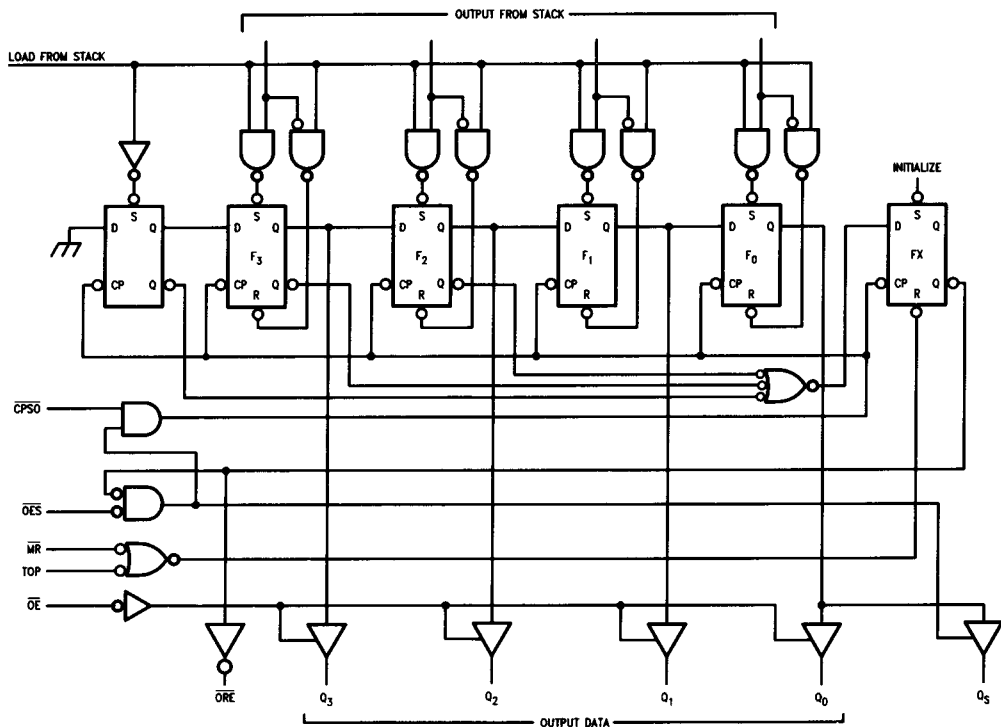

FIGURE 3. Conceptual Output Section
The Output Register receives 4-bit data words from the bottom stack location, stores it and outputs data on a TRI-STATE 4-bit parallel data bus or on a TRI-STATE serial data bus. The output section generates and receives the necessary status and control signals. Figure 3 is a conceptual logic diagram of the output section.
**Serial Data Extraction**—When the FIFO is empty after a LOW pulse is applied to  $\overline{MR}$ , the Output Register Empty ( $\overline{ORE}$ ) output is LOW. After data has been entered into the FIFO and has fallen through to the bottom stack location, it is transferred into the Output Register provided  $\overline{TOS}$  is LOW and TOP is HIGH. As a result of the data transfer  $\overline{ORE}$  goes HIGH indicating valid data in the register. The TRI-STATE Serial Data Output,  $Q_S$ , is automatically enabled and puts the first data bit on the output bus. Data is serially shifted out on the HIGH-to-LOW transition of  $\overline{CPSO}$ . To prevent false shifting,  $\overline{CPSO}$  should be LOW when the new word is being loaded into the Output Register. The fourth transition empties the shift register, forces  $\overline{ORE}$  output LOW and disables the serial output,  $Q_S$  (refer to Figure 3). For serial operation the  $\overline{ORE}$  output may be tied to the  $\overline{TOS}$  input, requesting a new word from the stack as soon as the previous one has been shifted out.